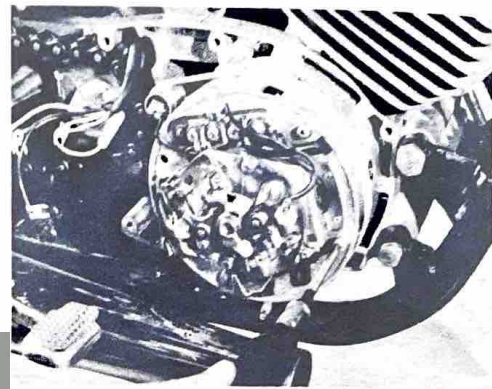

Fig. 4-1-11
8. Remove the yoke mounting screws, and then the yoke assembly. (Fig. 4-1-11)